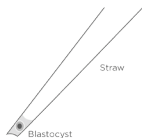

Figure 1. The blastocyst in the tip of the straw
- 4) Touch the droplet with the narrow end of the OPS. The medium with the blastocysts will be automatically drawn into the tip of the straw (See Figure 1).